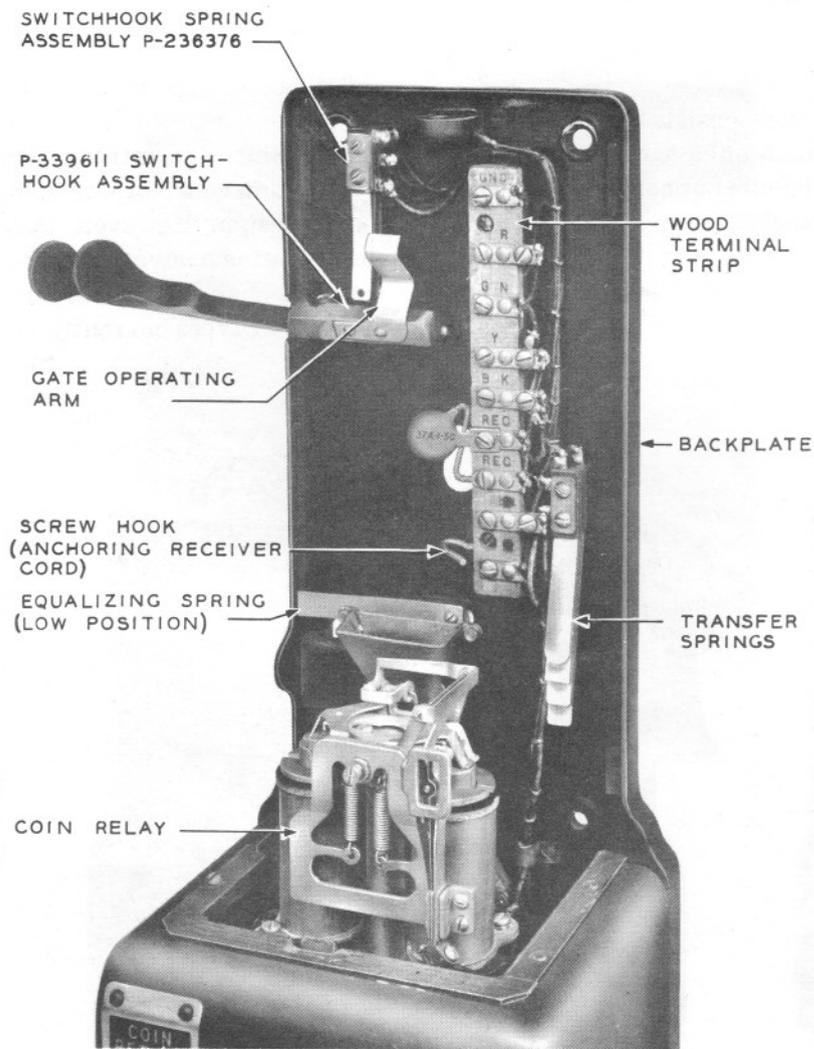
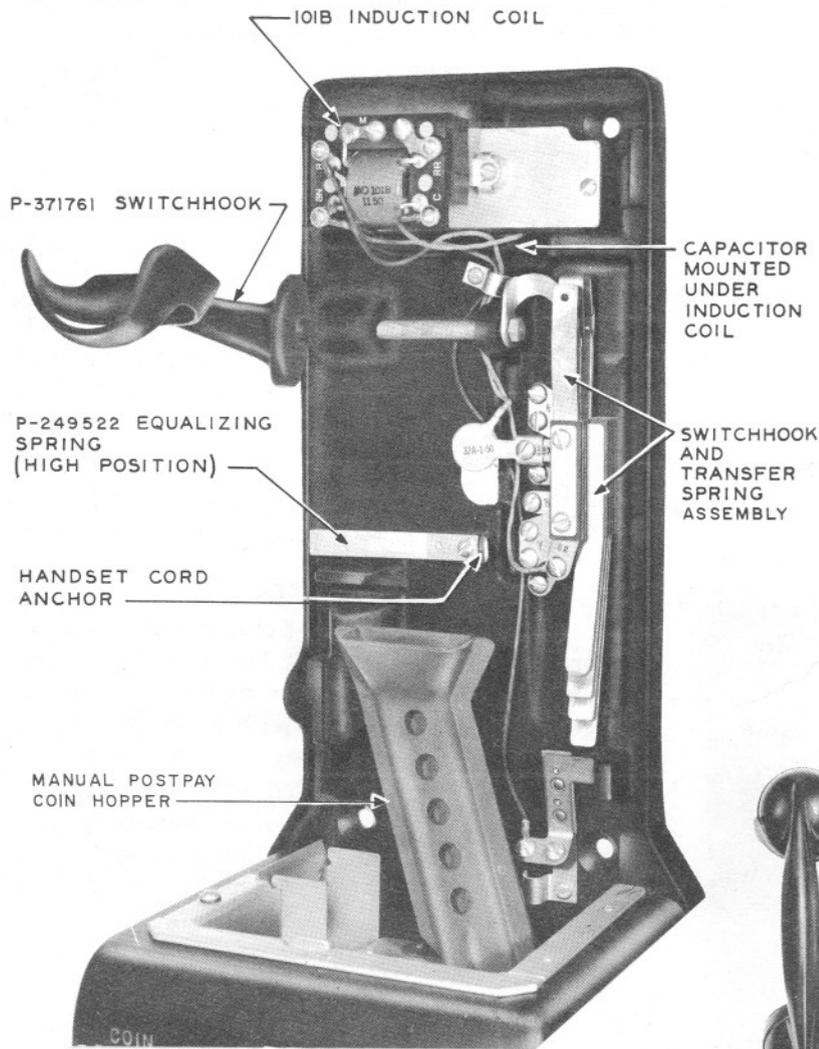

Fig. 2 — Wood Terminal Strip with External Induction Coil and Capacitor
Fig. 3 — Switchhook and Transfer Spring Assembly with Internal Induction Coil and Capacitor
spring assemblies, as shown in Fig. 2. Later designs make use of a combined switchhook and transfer spring assembly as shown in Fig. 3, 4, and 5. The antisidetone induction coil and related capacitor of the talking circuit were mounted on the backplate for 180 and 190 series coin collectors, as shown in Fig. 3 and 4. The ringing bridge is provided by a separately mounted subscriber set. All network-type and earlier induction-coil types use an externally mounted subscriber set for both talking and ringing features (see Fig. 2 and 5).
5.03 Various typical combinations of parts mounted on the backplate are illustrated in Fig. 2, 3, 4, and 5.